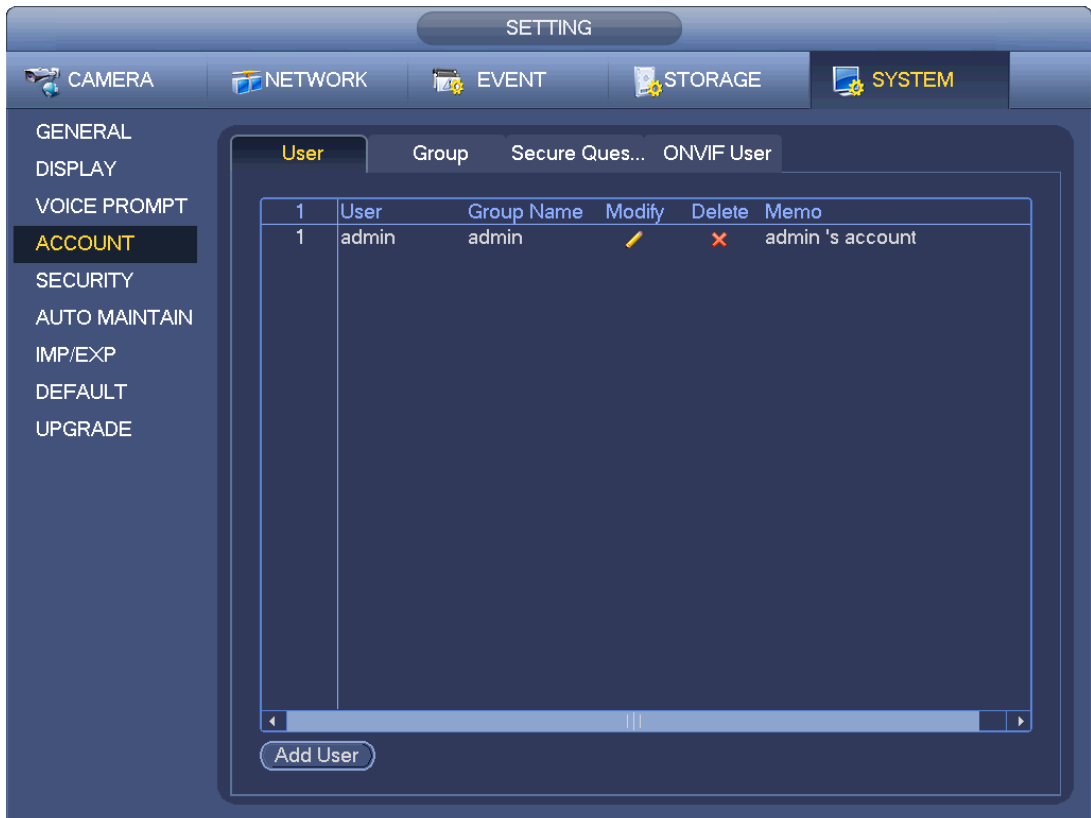

Figure 3-206
Enter user interface. See Figure 3-206.
- Step 2 Click Add user button in Figure 3-206.